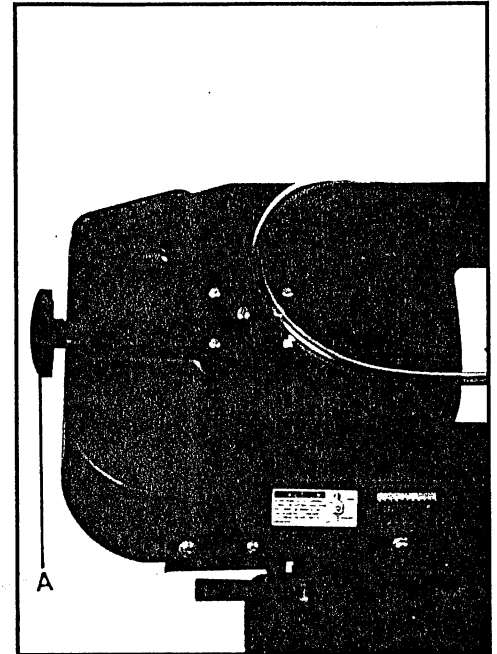

Fig. 8
3. Turn blade tension knob (A, Fig. 8) one and three quarter to two revolutions clockwise. This equals approximately 23,000 lbs. of blade tension.